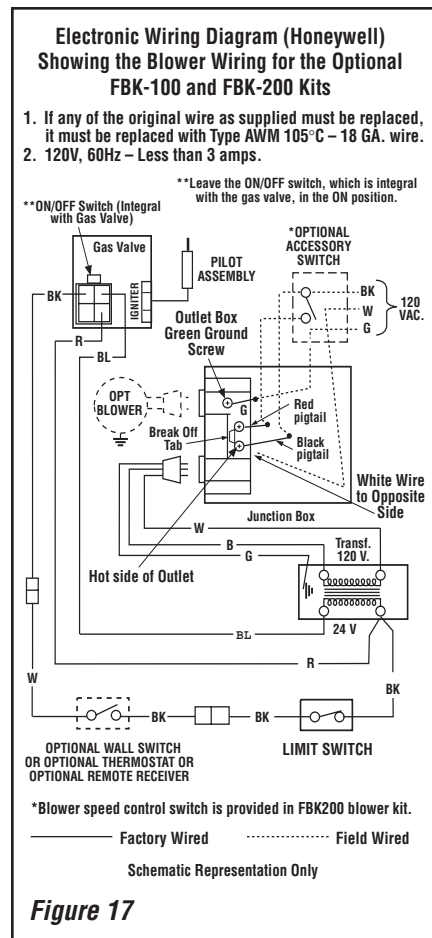
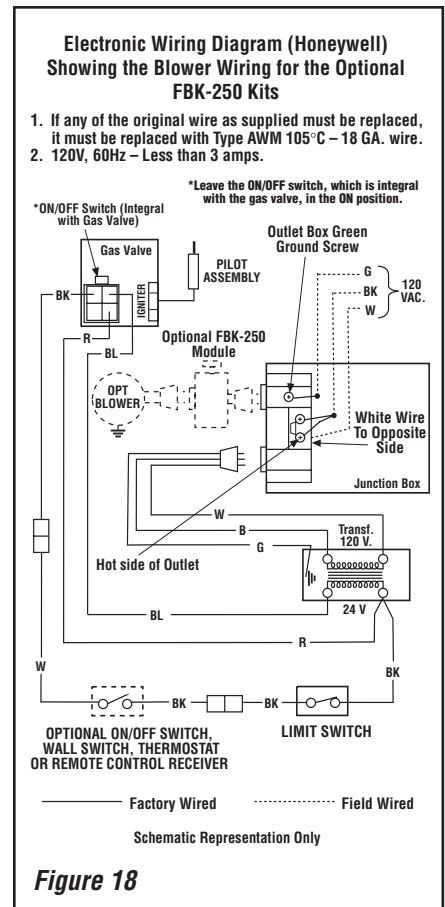

Figure 17
Figure 18
B. Electronic Wiring (See Figure 17 or 18)–
3. Connect the power supply wires (including the ground supply wire) as shown in **Figure 17 or 18.** (If the field-provided J-box/outlet box is being used, all of the outlet box wiring must be field-provided).
Note: The gas valve-mounted ON/OFF switch is shown in **Figure 17 or 18.** It is integral with the gas valve and should be set to the ON position.
(See **Figure 17** for **FBK-100, FBK-200** and **Figure 18** for **FBK-250** wiring) -
IMPORTANT: Ground supply wire must be connected to the green wire attached to the outlet receptacle's green ground screw. **See Figure 17 or 18.** Failure to do so will result in a potential safety hazard. The appliance must be electrically grounded in accordance with local codes or, in the absence of local codes, the National Electrical Code, ANSI/NFPA 70- (latest edition). (In Canada, the current CSA C22-1 Canadian Electrical Code).